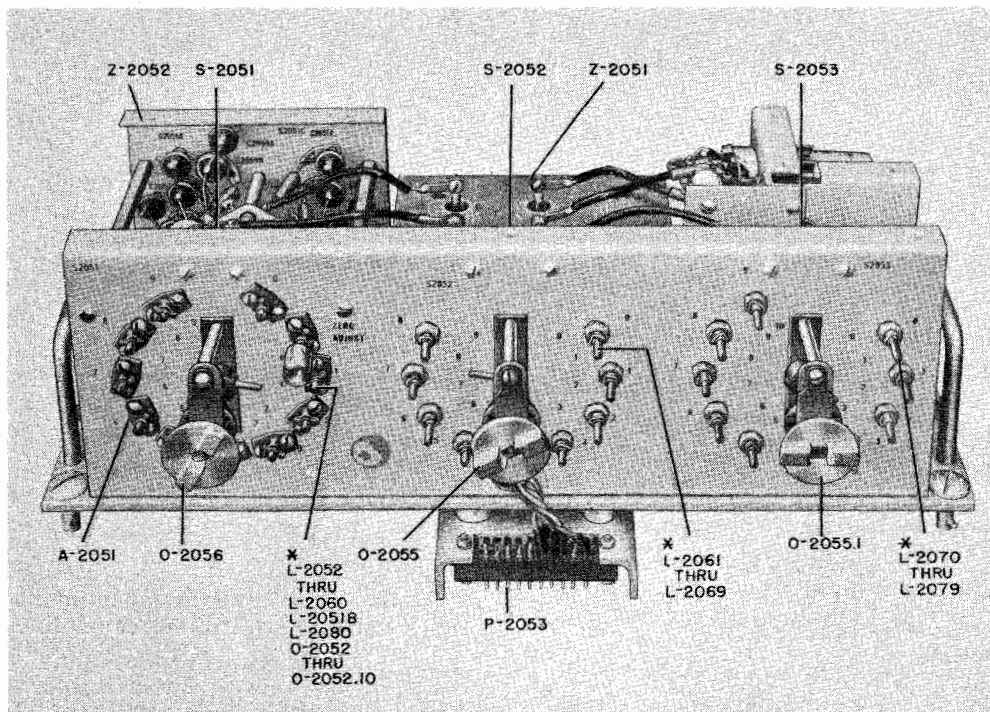

Figure 7-18. RFO, Unit 3 (Z-2053), Top Oblique View
g. RADIO FREQUENCY OSCILLATOR, UNIT 3 (Z-2053), TROUBLE SHOOTING.—The interpolation oscillator, unit 3 (figures 7-18, 7-19 and 7-20), is the most critical unit in the RFO. Extreme care should be taken to prevent changing the variable inductors during servicing. In the event that tests indicate that unit 3 is in need of alignment, always attempt to zero the unit with the INT. OSC. ZERO ADJ. (front panel) as described in paragraph 5 b (1) (a). If this control does not bring unit 3 into alignment, check unit 1 alignment as indicated in paragraph 5 d (1) before deciding the trouble to be in unit 3.